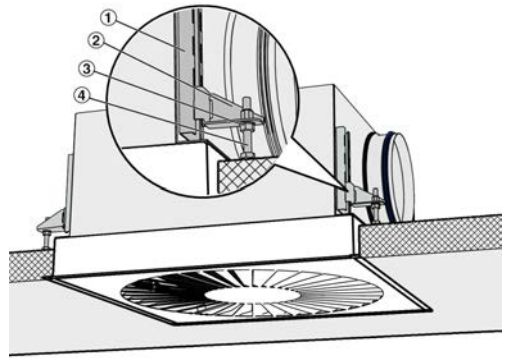

Fig. 3: Fixing to the load-bearing suspended ceiling
1. ▶ Insert the support angle section supplied as accessories (Fig. 3/2) into the C rails (Fig. 3/1) and adjust the height to the local conditions.
3. ▶ Then carry out the fine-adjustment using the adjusting screws (Fig. 3/4) and secure with the locknuts (Fig. 3/3).